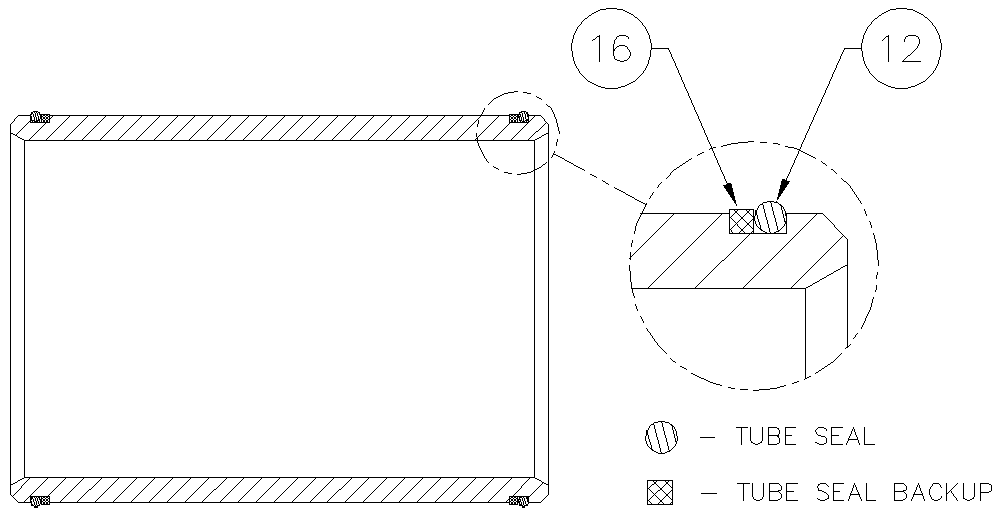
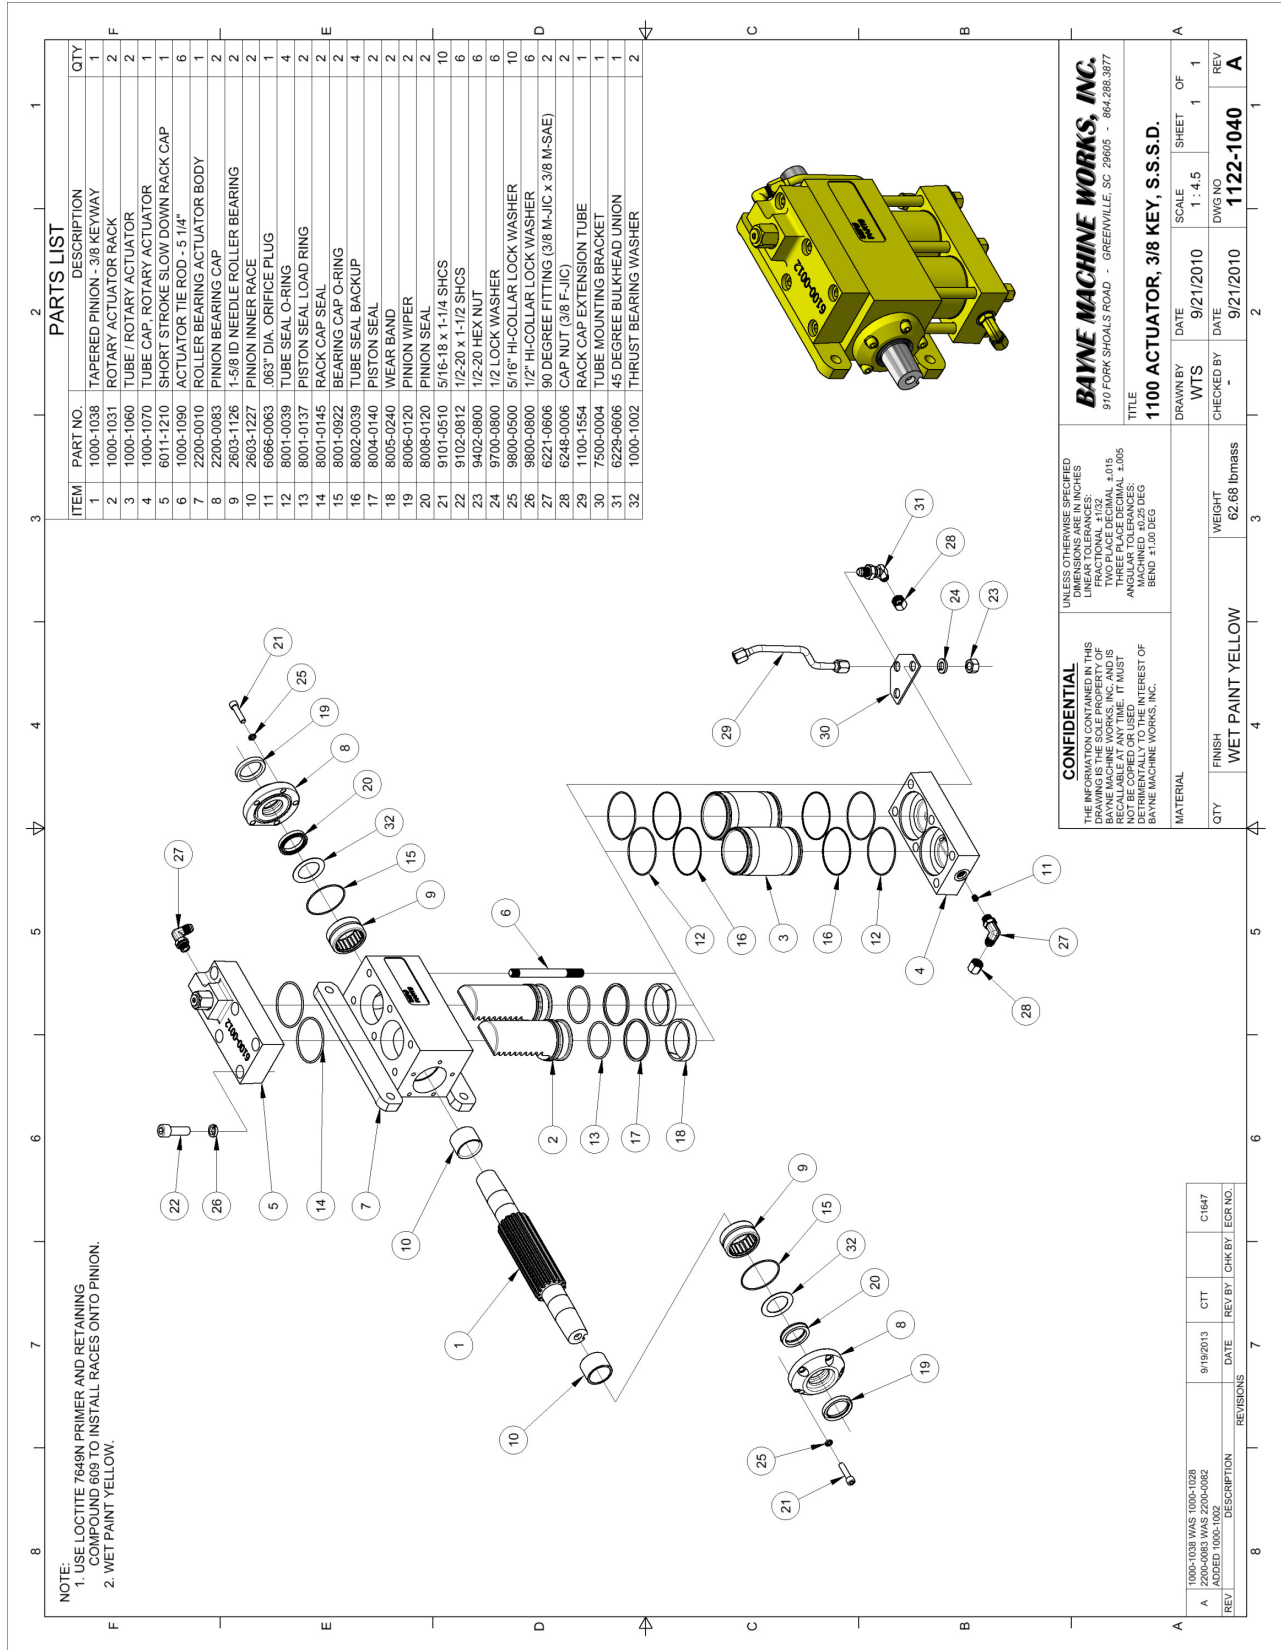

figure A-2
figure A-13
Before starting the assembly of the Rotary Actuator, refer to the exploded parts drawing and parts list (fig. A-13 found at the end of these instructions) to familiarize yourself with the individual components. Prepare a clean surface, in an area free of blowing dust and contaminants in which to assemble the Rotary Actuator. Be sure that all parts are thoroughly clean and dry before starting assembly.
2. Install the tube seal (12) (fig. A-2) and “square” tube seal backup (16) on each end of the actuator tubes (3) (fig. A-13). Be sure that the “square” tube seal backup ring is toward the inside of the tubes at both ends as shown. Press all rings firmly into the grooves. Repeat this procedure for the other tube.
- Coat the head portion of the racks (2) (fig. A-13) with STP Oil Treatment. Install the racks, head portion up with the teeth facing the flanges of the actuator body, into the dual set of bores in the body. Simultaneously slide the racks into the bores so that the racks mesh with the pinion in the same position. Rotate the pinion shaft to engage the racks into the pinion.
7. Coat one end of the actuator tubes (3) (fig. A-13) around the seal area with STP Oil Treatment as shown in figure A-7. Using a rubber mallet, drive the coated end of the tube onto the exposed rack until the tube end seats in the actuator body, making sure that the seals remain in place as the tube enters the counter-bore. Repeat this procedure for the other side.
8. Install the six tie rod studs (6) (fig. A-13) by screwing the short threaded end into the actuator body. Hand tighten only at this time (the torque needed will be applied later in the procedure).
9. Place the tube cap (4) (fig. A-13) on the table. Coat the sides of the two bores in the tube cap with STP Oil Treatment. Install the cap over the tubes and rod studs with the oil port positioned to the left as shown in figure A-13. Using a rubber mallet, tap the tube cap over the tubes until the tubes seat in the cap, making sure that the seals remain in place.
10. Place the tube mounting bracket (30) (fig. A-13) over the two end rod studs opposite the oil port in the tube cap as shown in figure A-13.
11. Install the hex nuts (23) (fig. A-13) and lock washers (24) on the tie rod studs. Torque the nuts to 50 ft-lb. in the sequence shown in figure A-8.
12. Place the rack cap (5) (fig. A-13) bore side up on the table and coat the edge of each bore with STP Oil Treatment. Install the rack cap seals (14) (fig. A-9) in the rack cap.
13. Reposition the actuator on the table mounting flanges down, and the lower tubes facing away from the assembler. Rotate the pinion shaft to allow 1” of the rack to protrude from the top of the actuator body. Install the rack cap with the oil port positioned to the left hand side of the actuator opposite the bottom oil port located in the tube cap as shown in figure A-13. Attach the rack cap to the actuator body using the socket head bolts (22) (fig. A-13) and lock washers (26). Torque the bolts to 90 ft-lb. in the sequence shown in figure A-10.
15. Re-center the actuator pinion in the actuator body by tapping on one end of the shaft with a rubber mallet. Install the roller bearing (9) (fig. A-13), over the pinion shaft and inner race, and into the actuator body. Repeat this procedure for the other bearing.
18. Wrap masking tape or electrical tape around the pinion to cover the edges at the keyway. Slide the bearing cap assembly over the pinion shaft with the bearing cap seal facing toward the actuator body and the flat surface of the flange shown in figure A-16 facing toward the actuator mounting flanges. Press against the bearing cap until the shoulder seats against the actuator body, making sure that the seals remain in place. Install the bearing cap bolts (21) (fig. A-13) and lock washers (25). Hand tighten only at this time. Repeat this procedure for other bearing cap.
20. Install the 90° fitting (27) (fig. A-13) into the oil port on the side of the rack cap (5). Hand tighten only at this time.
21. Install the 45° bulk-head fitting (31) (fig. A-13) up through the hole in the tube mounting bracket (30) bolted to the tube cap as shown in figure A-13. The 45° end must be pointing down away from the rack cap (5) and back toward the mounting flanges on the actuator body. Hand tighten only at this time.
22. Install the rack cap extension tube assembly (29) (fig. A-13) between the 90° fitting in the rack cap and the 45° fitting in the tube mounting bracket as shown in figure A-13. Tighten all connections.
23. Install the orifice plug (11) (fig. A-13) into the oil port on the side of the tube cap (4), and install the 90° fitting (27) into the oil port over the orifice plug as shown in figure A-13. Turn the fitting so that it points down away from the rack cap (5) and back toward the mounting flanges on the actuator body and tighten.
24. Install the cap nuts (28) (fig. A-13) onto the open fittings to prevent contamination of the unit until the hoses are installed.